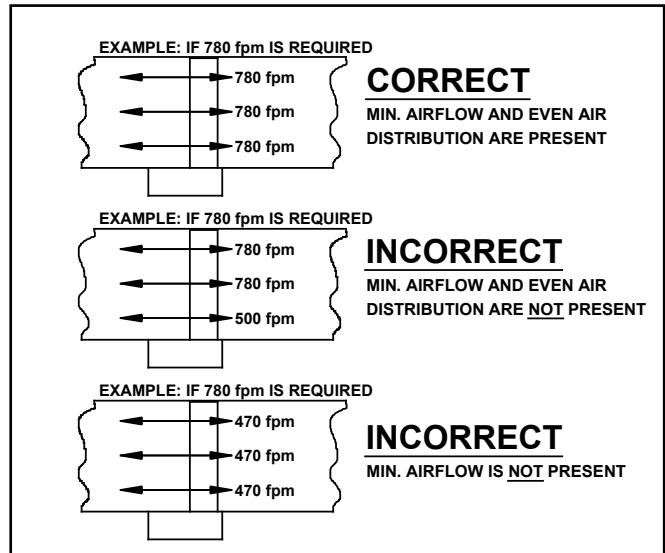

FIGURE 3.1.0 PLACEMENT: MINIMUM AIRFLOWS
2. Never operate heater without achieving at least the minimum airflow required. Always refer to the installation instructions and the nameplate label to determine your minimum air velocities based on your inlet air temperature. If the minimum airflow requirements are not present the heater will not function properly and safely. (see Figure 3.1.0)
3. Never operate the heater with uneven airflow. The minimum airflow requirements must be present at all points over the heater face. (see Figure 3.1.0)